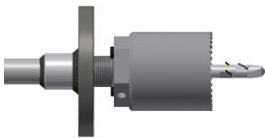

Figure 5
3.0.3) Thread adaptor/cutter onto the 75" saw mandrel until tight (nylon locking feature will prevent adaptor from unthreading), hex pattern may be used for tightening/loosening (see Figure 5).